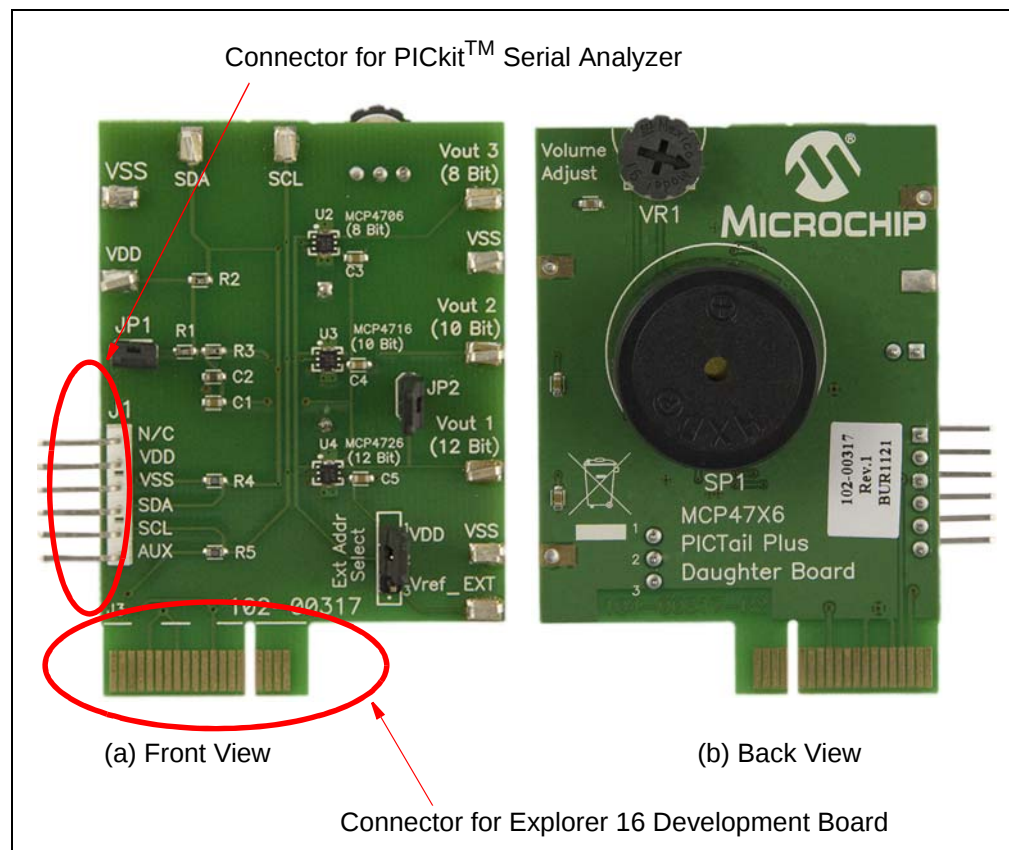

FIGURE 1-1: Front and Back Views of the MCP47X6 PICTail™ Plus Daughter Board.
- Replaced the front and back views of the board with updated photos for Figure 1-1: “Front and Back Views of the MCP47X6 PICtail™ Plus Daughter Board.”